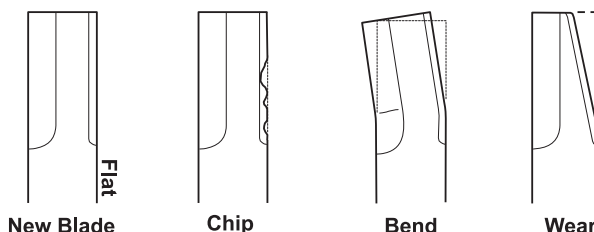
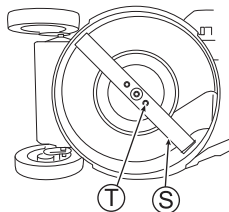

Fig. 33
Fig. 34
- 1 Confirm that there is no chip, bend, or wear with Blade (S). (See Fig. 33)
- 2 If Blade (S) or its mounting bolts (T) are "worn", "broken" or "deformed", exchange with new one(s) specified by us.
- 3 Confirm that Blade mounting bolts (T) are tightened by the specified torque. (See Fig. 34)
- 2 Fully tighten Blade mounting bolts (T) with hand.
- 4 Confirm that Blade mounting bolts (T) are tightened by the specified torque. (See Fig. 34)